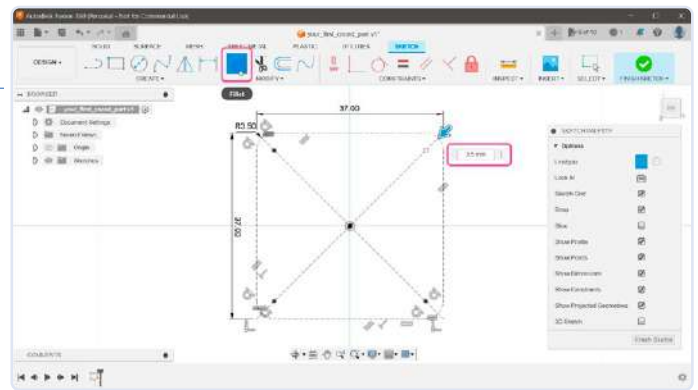

Figure 4: Rounding the enclosure's corners.
4) The PCB has rounded corners, and it would be nice if our enclosure matched those (Figure 4). A rough measurement shows that the corner radius is about 3.5 mm. In the toolbar, select the *Fillet* tool, and click on all the outer lines individually. Enter 3.5 mm for *Fillet Radius*.